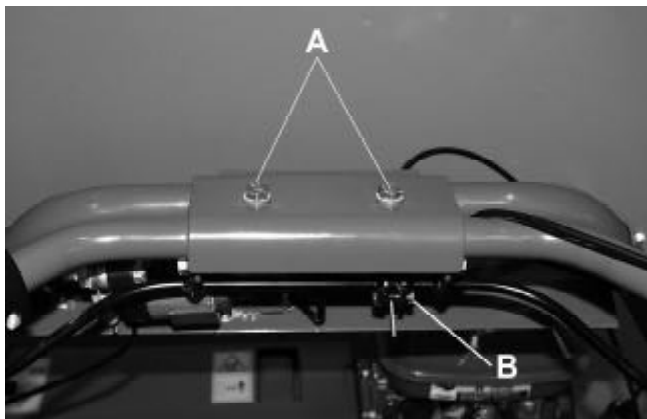
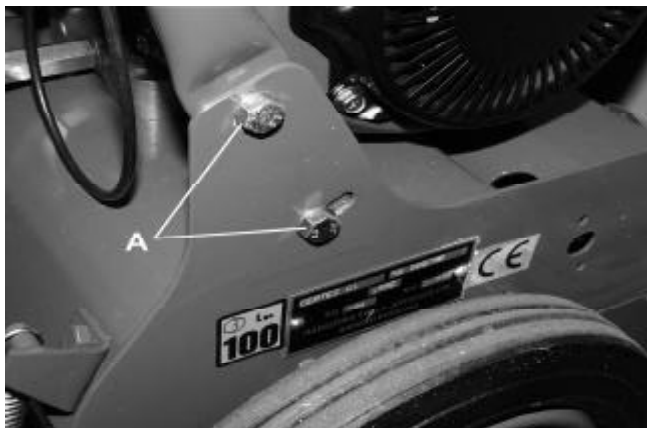

Fig. 23
Fig. 24
Where the tubes are attached to the side frames (A Fig. 24 and where the handlebars are attached to the lower handle tube (A Fig. 23)
1. Slacken the clamp bolts (A Fig. 23 and/or 24.